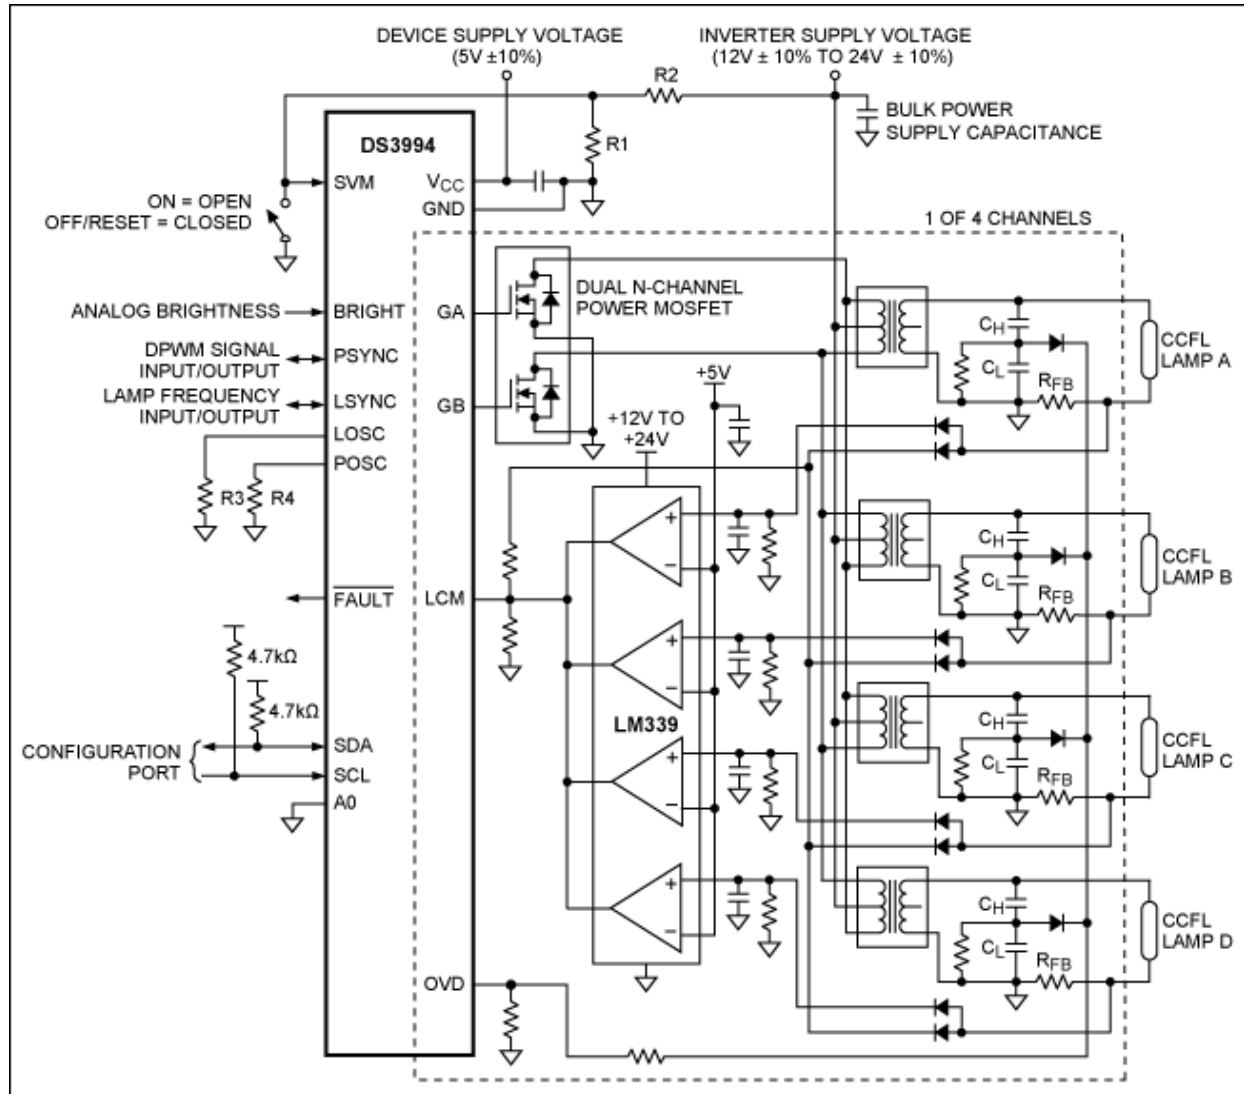

Figure 2. Typical operating circuit with multiple lamps per channel.
**Figure 2** shows a typical operating circuit with multiple lamps per channel using the DS3994. In this application, the lamp currents and voltages must be wire-ORed and fed to the LCM and OVD inputs on the DS3994. Some external circuitry, including voltage-dividers and peak detectors, is used. Unlike the application with a single lamp per channel, the application with multiple lamps per channel does not use an AC-coupling
The thresholds used in Figure 2 are summarized in Table 3, voltages with respect to ground. These values may differ for other parts.
Table 3. DS3994 LCM and OVD Thresholds (for Figure 2)